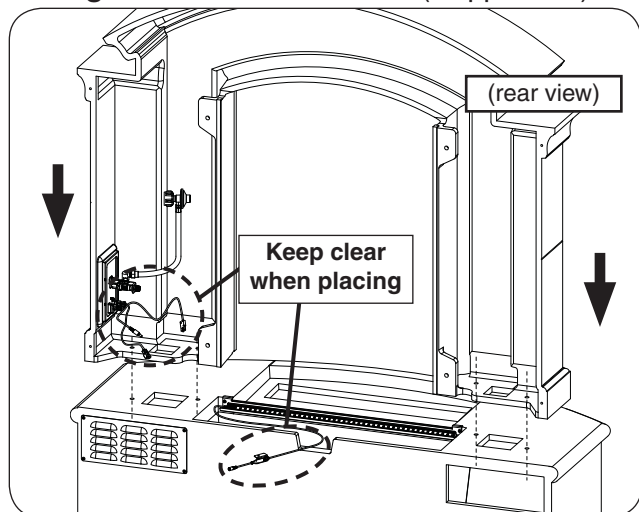

Fig. 19-4 Place top onto hearth
6. Place the top piece onto the hearth as shown in Fig. 19-4.